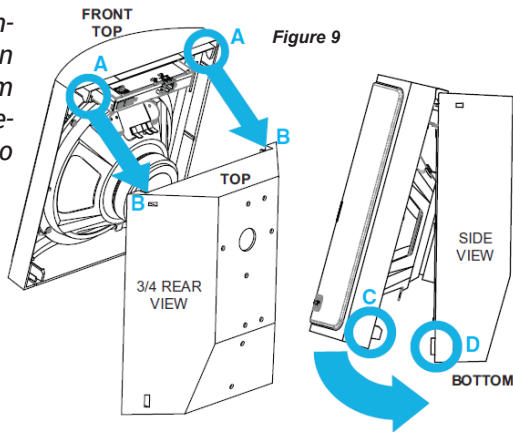

Figure 9
To assemble the Wall Baffle Speaker (Figure 9), first align the two notches (A) located at the top of the speaker baffle with the notches (B) at the top of the rear housing. Then, rotate the speaker baffle downward until the two bottom sections (C & D) snap together.